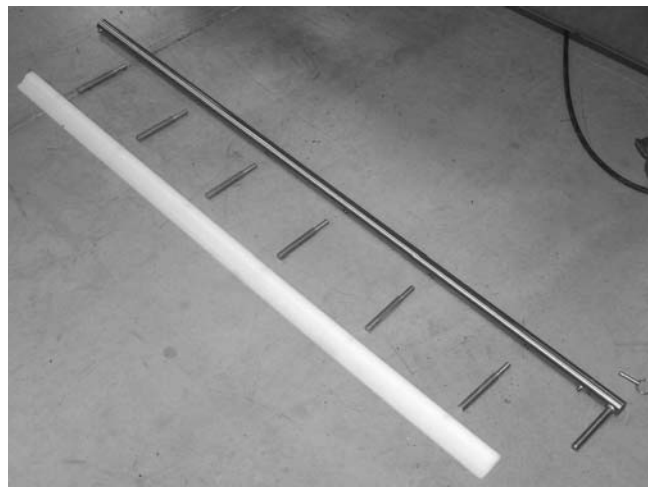

Figure 74
7. Replace components, as needed (**Figure 74**).